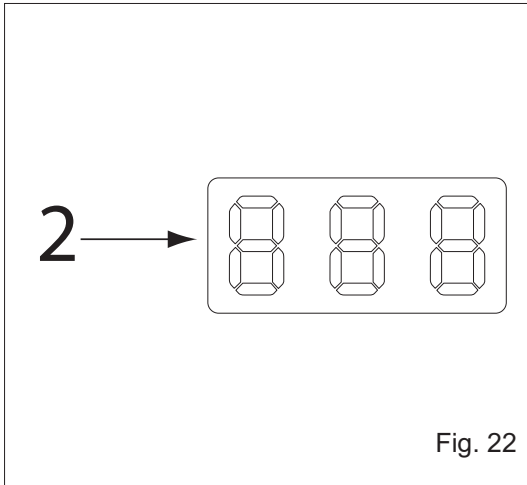

Fig. 22
The oven features a single control display panel (ref.2, Fig. 22) which lights when the programme selector is rotated.